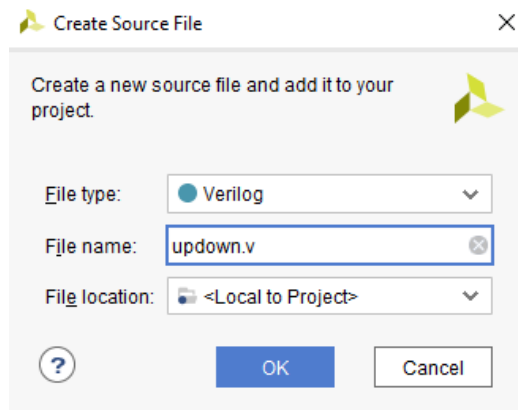

Figure 13: Set file name and type of the source file
3. Now, you will be asked for the name and type of the new source file. Select "Verilog" for the file type and set the file name to "updown.v" (see Fig. 13). After that, click "OK" to continue.